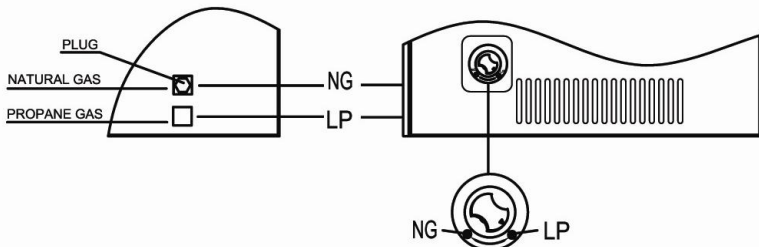

Figure 14
2. For propane gas, press in knob using a flat screw driver with a blade the thickness of a quarter and turn knob counterclockwise  until the knob locks into the LP position (see figure 14). Selection valve must be locked into the LP position.